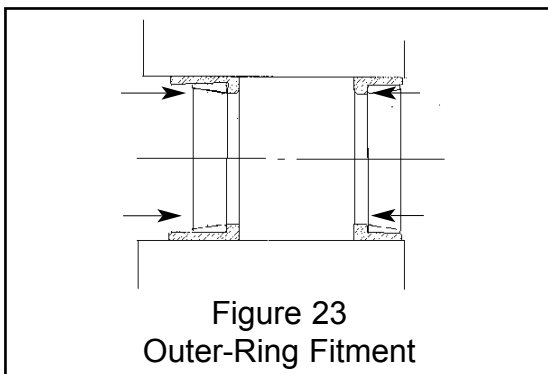

Figure 23
- b) Slide both front (5) and rear (4) outer races into the bearing housing. (See figure 23) **Note:** At this stage do NOT put additional oil on bearings.
- c) Place driven shaft (25) into the bearing housing (1) from the front and slide the inner race of front bearing (4) onto the shaft until front and rear inner bearing races are in light contact with their outer races. Fit the gear drive key (28), gear (6), tab washer (7) and gear nut (8). Tighten the gear nut (8) by hand to hold the assembly in place, taking-up any end float. It may help to warm the inner race of the rear bearing to ease fitment onto the shaft.